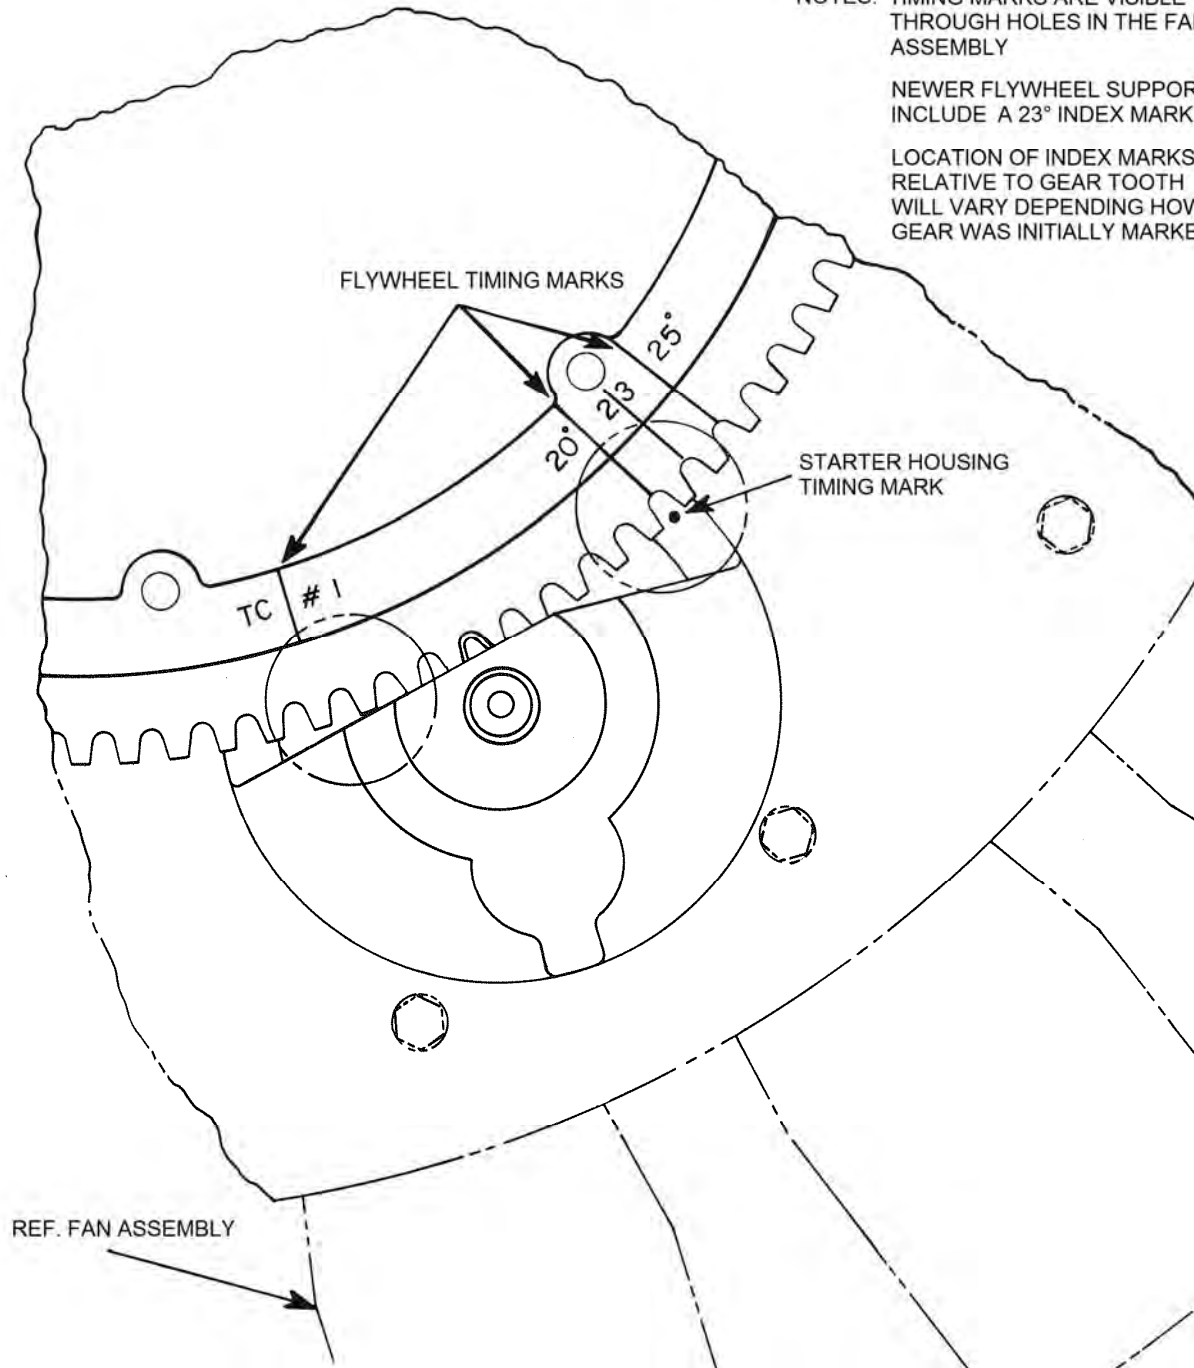

Figure 13-15
- (d) Set engine No. 1 cylinder at $21.5^{\circ} +0.05/-0$ BTDC (align mark on the starter ring gear with the mark on the starter housing) on its compression stroke (see Figure 13-15).